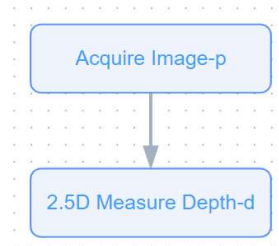

Figure 9.5.3
Step 3: Setting vision editing and filling in the robot pose of photo location into the 2.5D special ranging tool, as shown in Figure 9.5.3 and 9.5.4. See section 4.2.10 for the specific settings of spatial ranging.